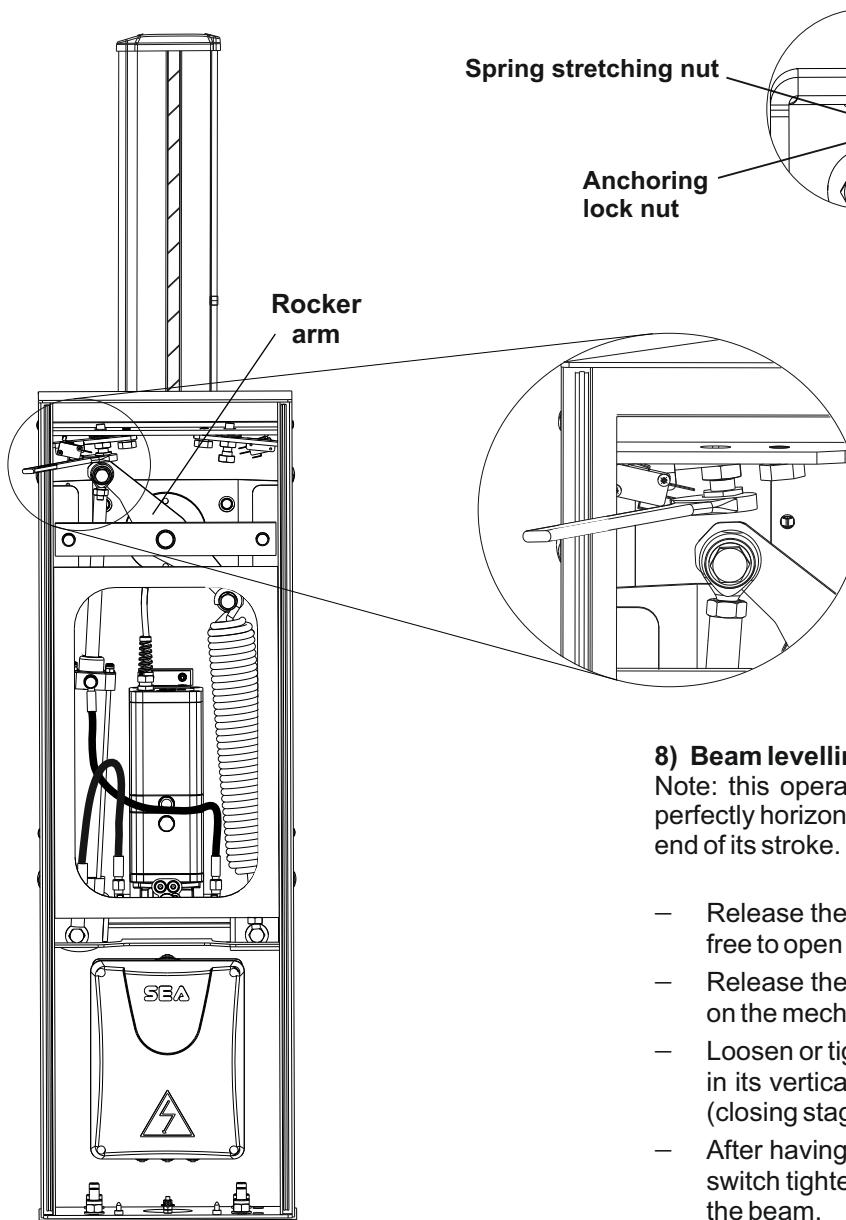

Fig. 14
- Release the screws of the limit switch on unscrewing the nuts on the mechanical stops (fig.14).
- Loosen or tighten the stop screws so that the beam is released in its vertical position (opening stage) and horizontal position (closing stage) (Fig. 14).